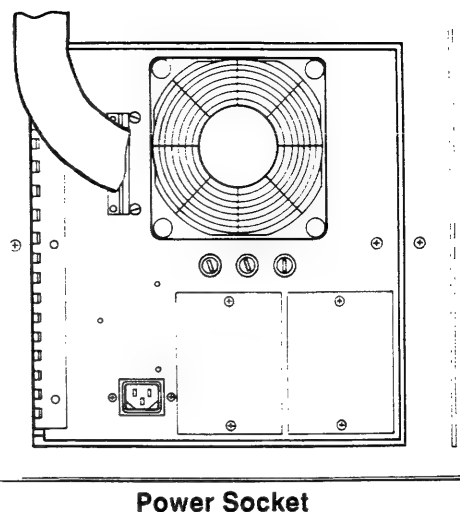

Figure 2-4A
1. Connect the Power Cord (Item 14) for the M-656 into the Socket at the Rear Door of the Work Station (Figure 2-4A), then plug the Power Cords from the M-7530 or M-7540 and M-656 into suitable power outlets.